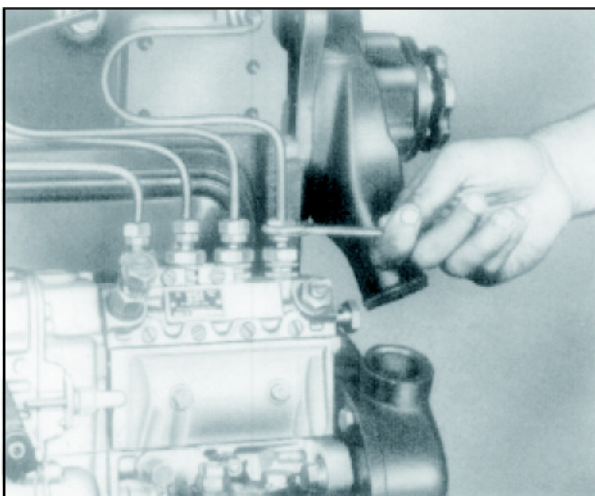

Fig.1
3. Unscrew coupling nuts of injection lines with a suitable spanner or socket, 000 589 0509 from fuel injection pump. Fig. 1.